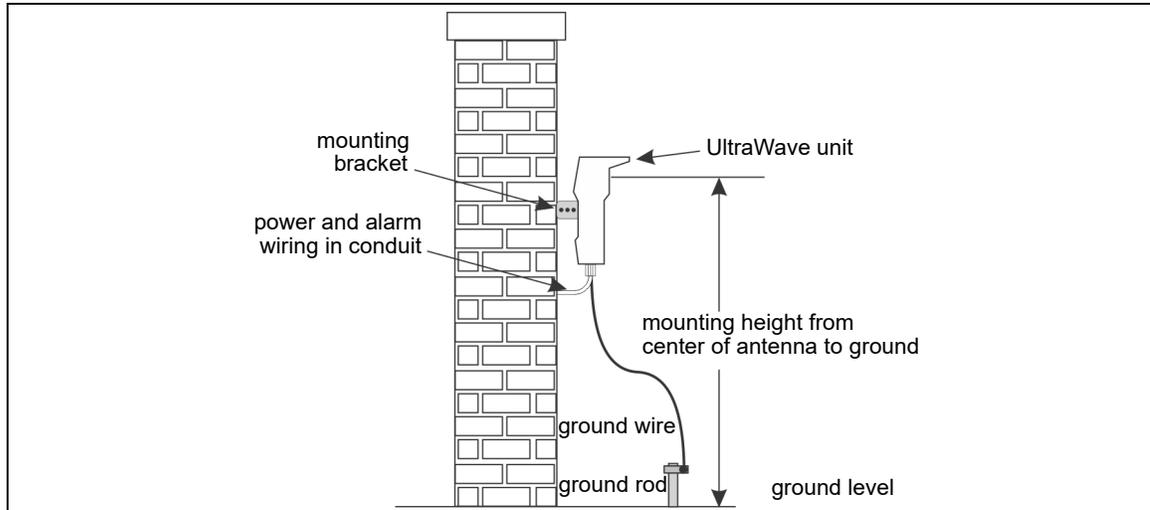

Figure 9 Surface mounting example
The post-mount bracket can also be used to mount an UltraWave unit on a fixed stable surface. The hardware required for fastening the bracket to the surface is not included. If you are considering a surface mount application, the transmitter receiver alignment must be carefully planned, as the mounting bracket cannot be easily adjusted in the horizontal plane for surface mount applications. Figure 9 illustrates a surface mount UltraWave application.
3. Hold the UltraWave unit against the mounting surface and measure the mounting height of the unit from the center of the antenna to the ground's surface (see Figure 9). Mark the mounting surface at the centers of the two holes in the post collar.